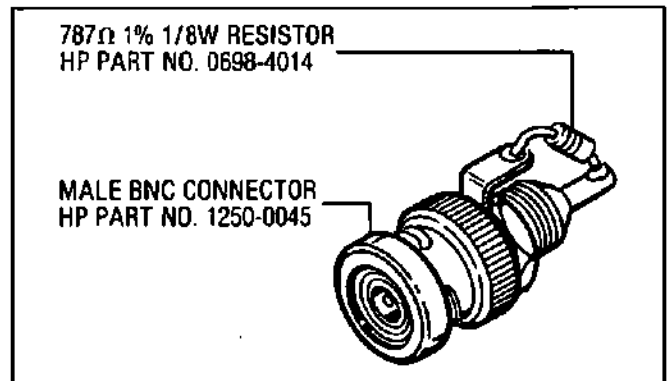

Figure 8-128. AM Calibration Adapter
42. Construct a calibration adapter as shown in Figure 8-128, and connect it with the test oscillator and oscilloscope as shown in Figure 8-129.